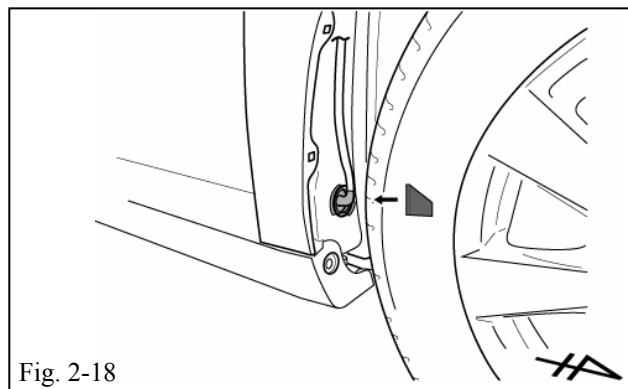

Fig. 2-18
- (z) Replace the Grommet, and cover it and the Hood Switch Harness with Butyl Tape as shown. (Fig. 2-18)